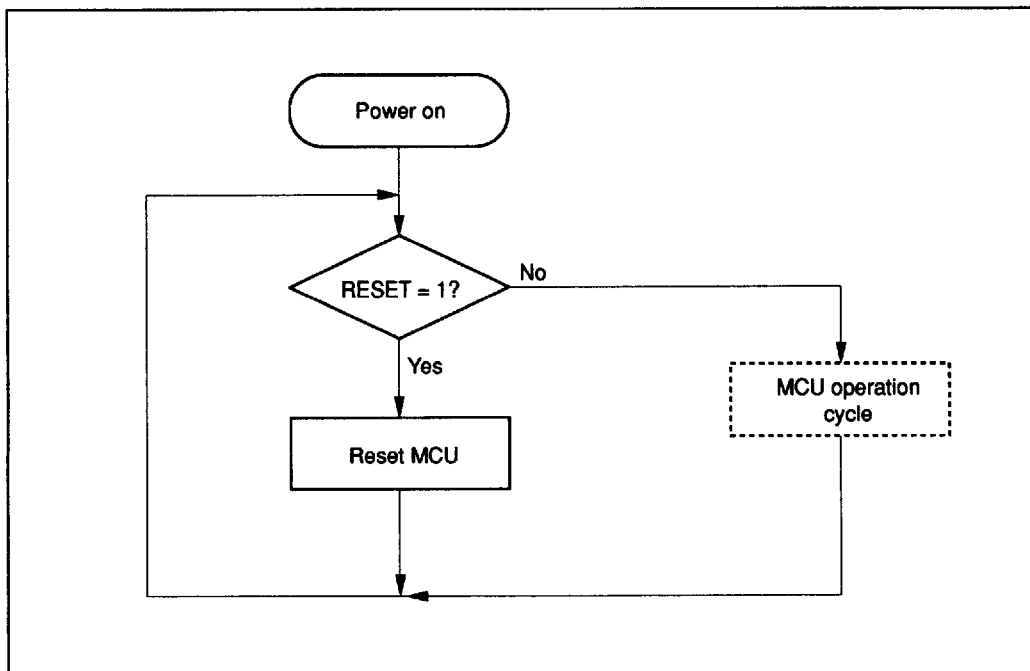

Figure 19 MCU Operation Flowchart (Power On)
**MCU Operation Sequence:** The MCU operates in the sequence shown in figures 19 to 21. It is reset by an asynchronous RESET input, regardless of its state.